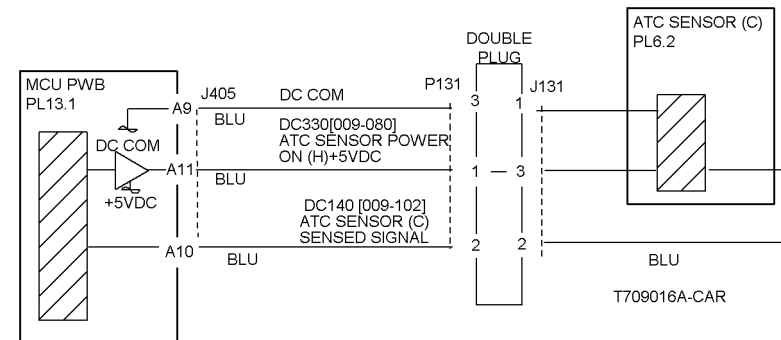

Figure 1 9-382 Rap Circuit Diagram - ATC Sensor C
Refer to **Figure 1** and check connector **P/J131**. If the check is OK, replace the ATC Sensor (C) (**PL 6.2**). If the problem continues, replace the MCU PWB (**PL 13.1**).